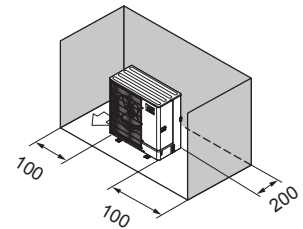

Fig. 1-24
- ③ Obstacles at rear and sides only (Fig. 1-24)